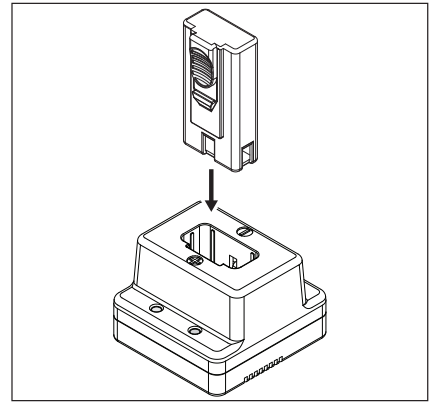

Figure 1
1. Place the battery into the charger (see Figure 1). Make sure the battery is securely in the charger.